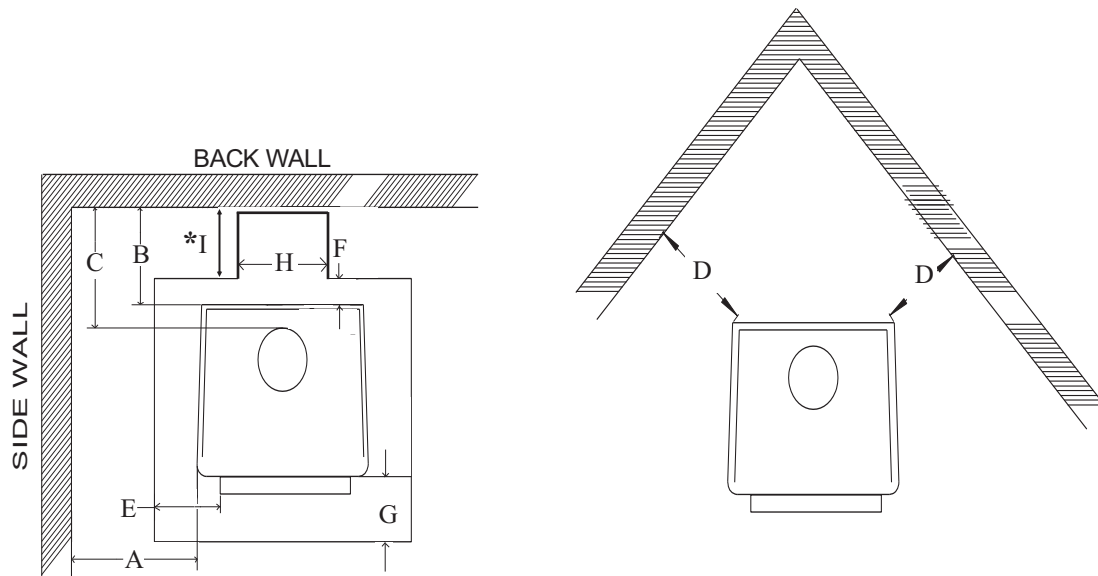

Figure 18
NOTE: Floor protector must be under horizontal pipe exit (See Figure 18, Page 20).
NOTE: Floor protector must be under horizontal exit (See Figure 18, Page 20).
* For wall exit, floor protector must be under horizontal pipe full length of pipe. There must be 2" on each side of pipe. Maintain 18" between pipe and ceiling. (See Figure 18, measurements H & *I).